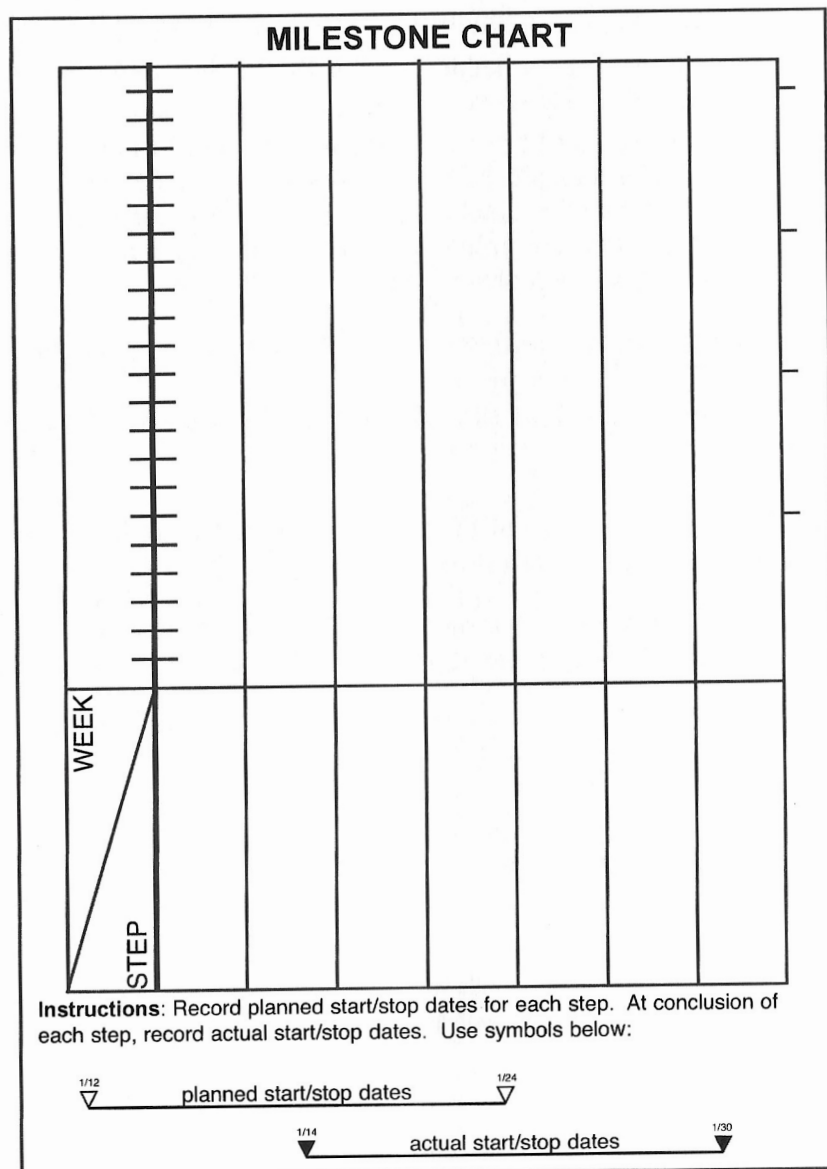

figure 18
H. Now that the scope of the project and the theme has been finalized, prepare a milestone chart (figure 18).
- You may have your own way of creating a milestone chart. If not, figure 18 may serve as a model.